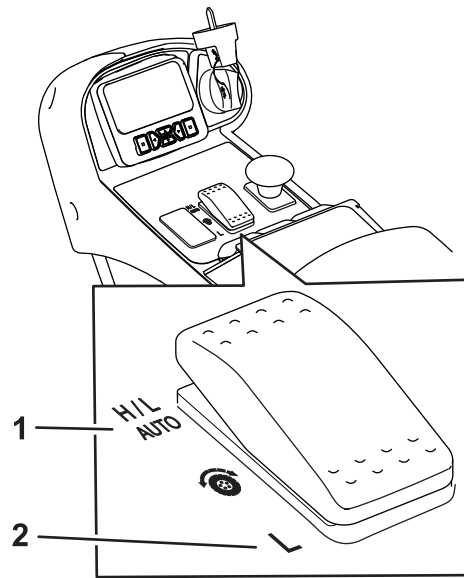

Figure 22
- Under normal operating conditions, this machine is intended to operate in the H/L AUTO position on the speed range switch (Figure 22). This position allows the machine to automatically switch between low and high speed ranges, depending on whether the machine is being used for mowing or transporting.
- When you select the LOW position on the speed range switch (Figure 22), the machine will always operate in low speed range. This setting is preferable for operation in a shop area, loading or unloading from a trailer, climbing steep inclines, or any other operation where the higher traction speeds of the high speed range is not desired.
This machine is equipped with 2 traction speed ranges; low and high. The speed range switch allows you to select the following positions (Figure 22):